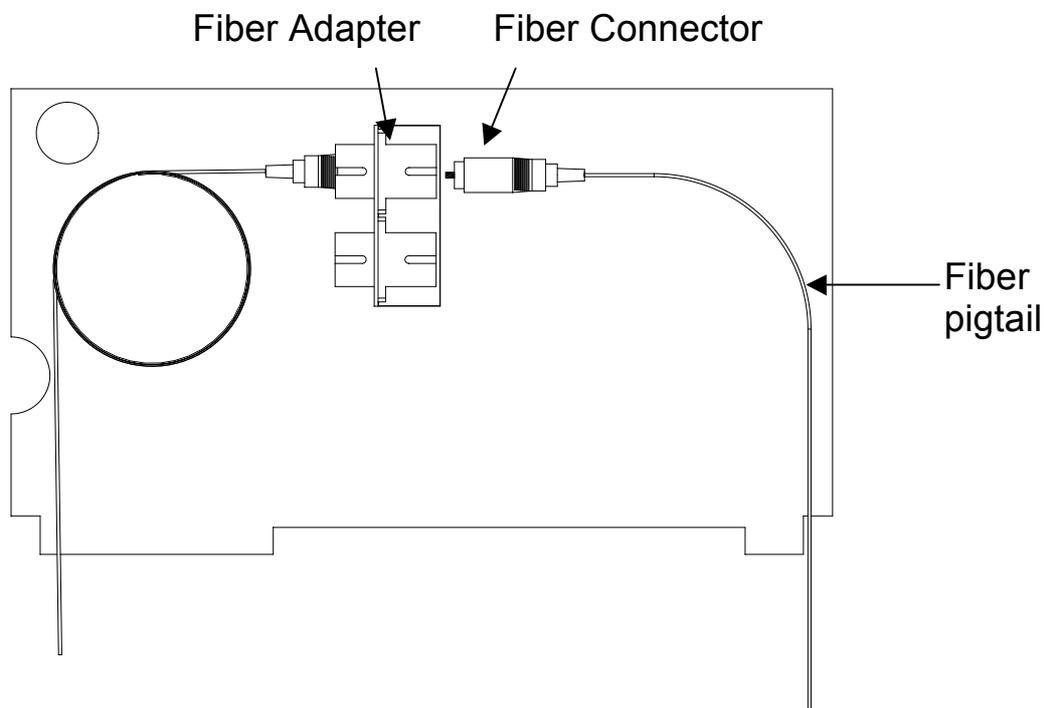

Figure 8. Illustration of fiber connector installation
8. Plug the fiber cable connector into the fiber adapter (see fig. 8).